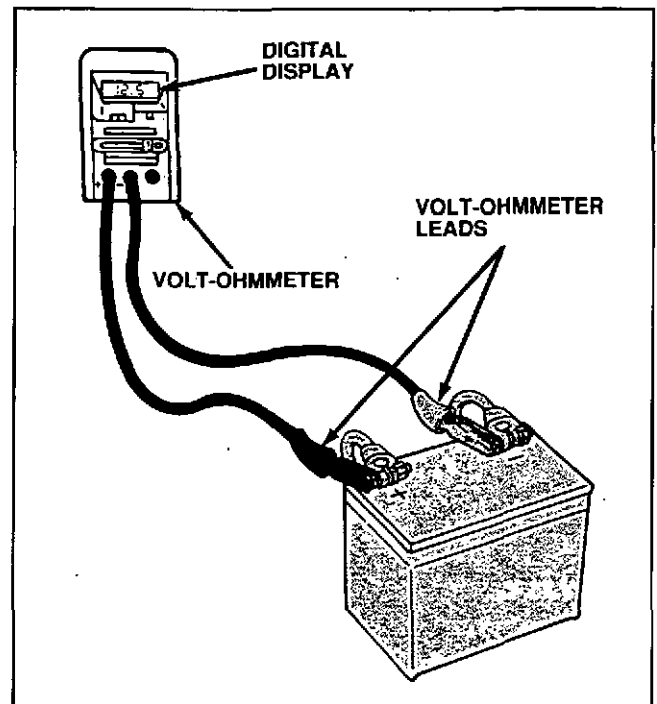

Figure 5-3 Base Voltage Connections
2. Connect the positive lead of the volt-ohmmeter to the positive battery cable clamp (Figure 5-3).